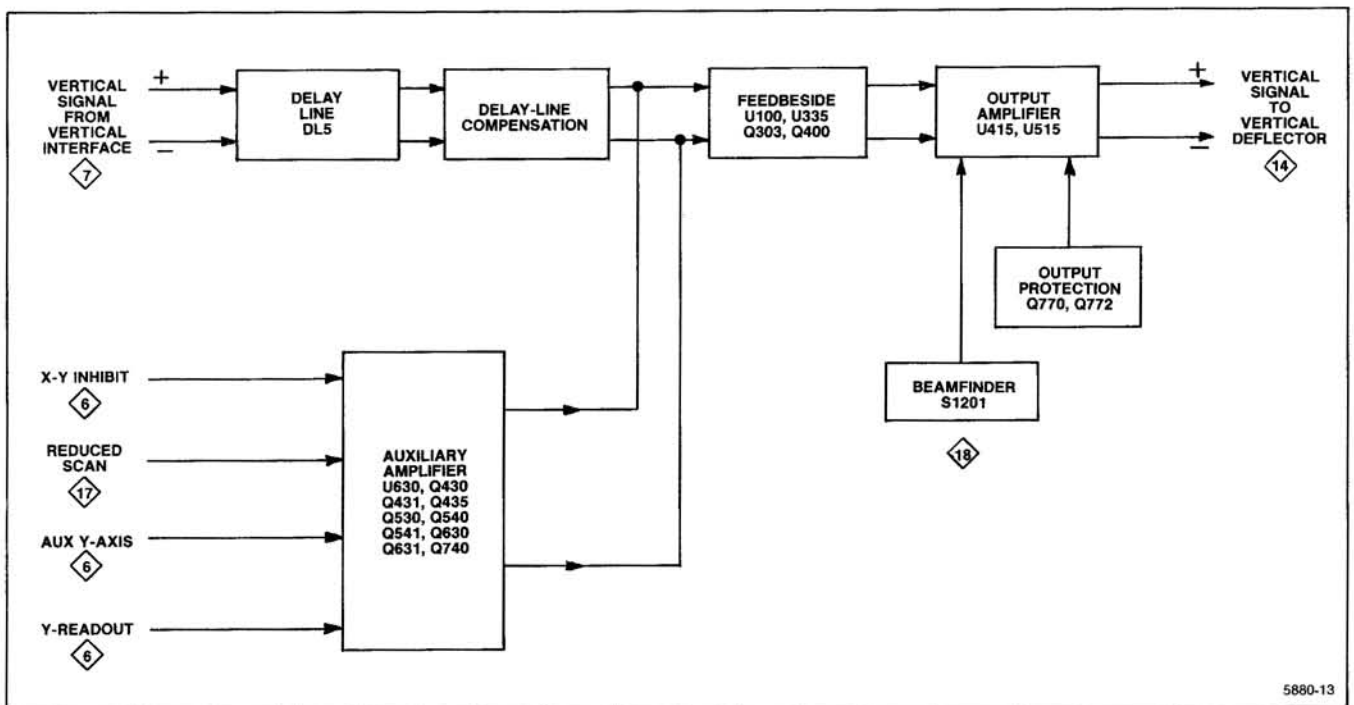

Figure 4-20. Detailed block diagram of the Vertical Amplifier circuit.
The Vertical Amplifier circuit provides final amplification for the vertical signal received from delay-line DL5 before it is applied to the crt vertical deflector. In addition, low-frequency signals to provide the VERT TRACE SEPARATION (B) function, crt scale factor readout, and the vertical portion of the BEAMFINDER function are also handled in the Vertical Amplifier. Figure 4-20 shows a detailed block diagram of the Vertical Amplifier circuit. A schematic of the Vertical Amplifier is given on diagram 8 at the rear of this manual.